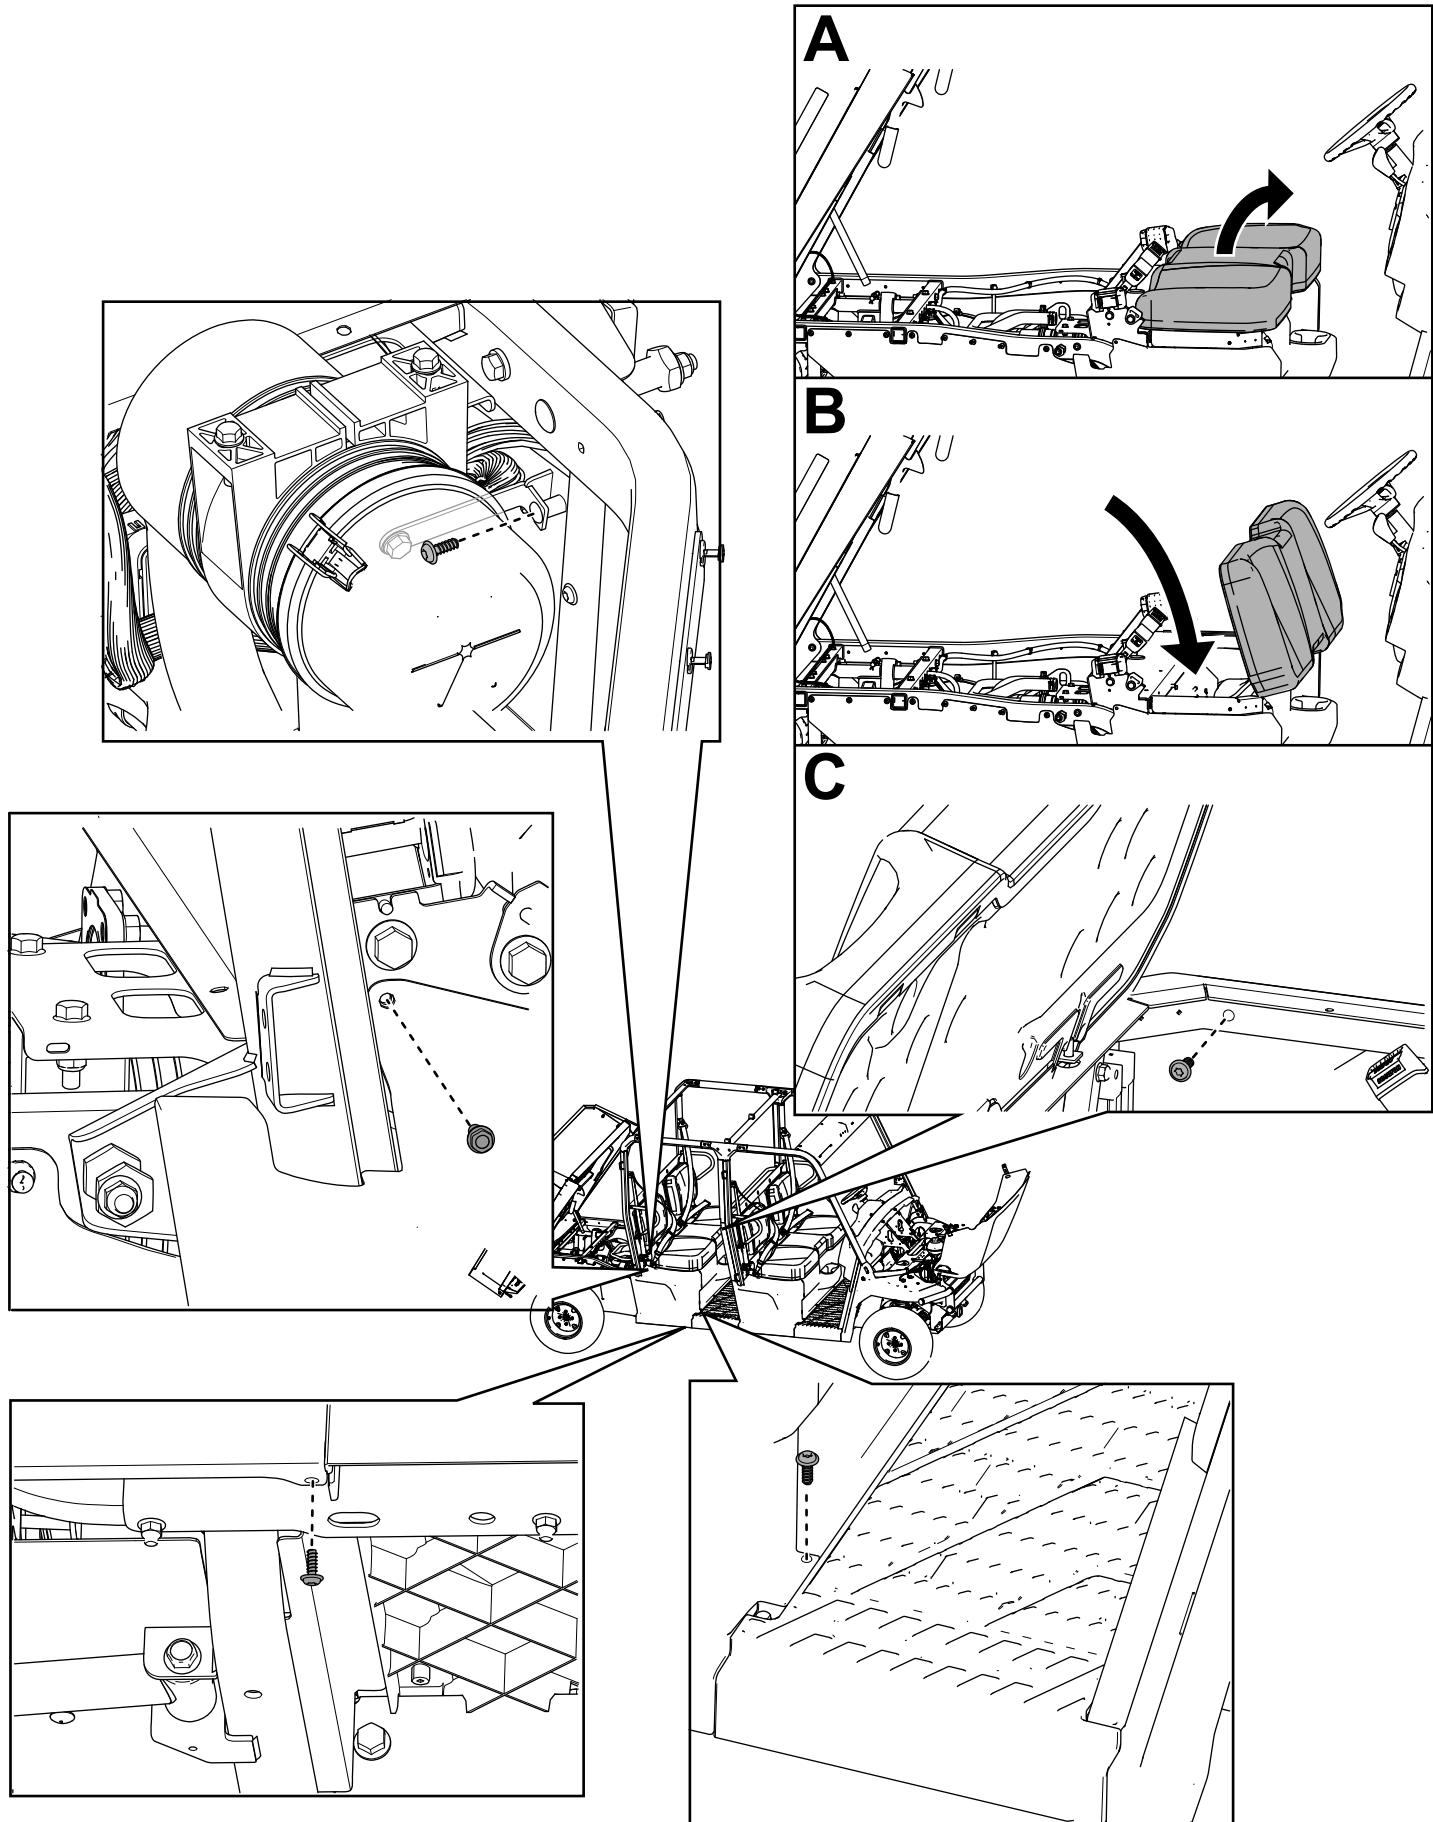

Figure 72
32. Secure the 2 right and 2 left seat-base panels using the previously removed hex-washer head bolts (1/4 x 3/4 inch) as shown in Figure 72.